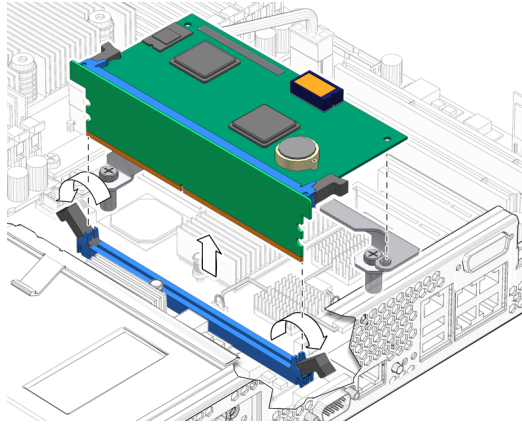

FIGURE 4-19 Ejecting the System Controller Board Riser Card
3. Press the system controller board riser card ejector levers outward to release the riser card from the motherboard assembly (FIGURE 4-19).